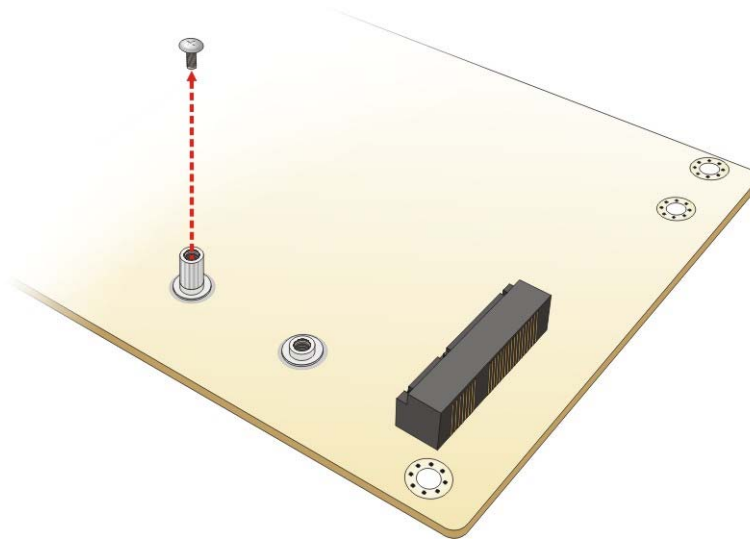

Figure 4-5: Removing the Retention Screw
Step 2: Remove the retention screw. Remove the retention screw as shown in **Figure 4-5**.